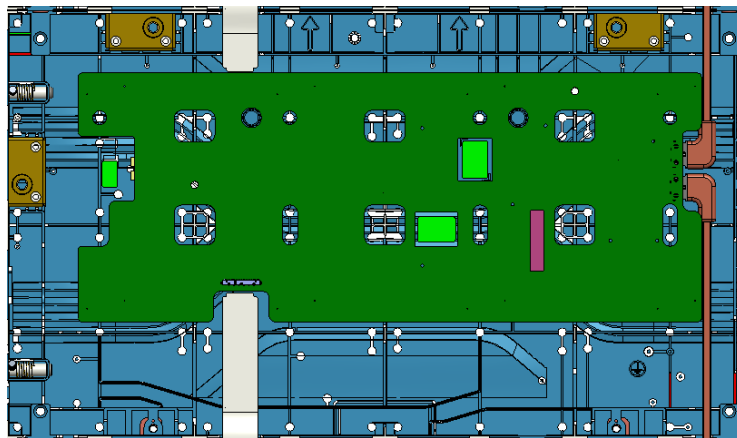

Figure 32
2. Orient the replacement 2-in-1 board with respect to the mounting position as shown in Figure 32.